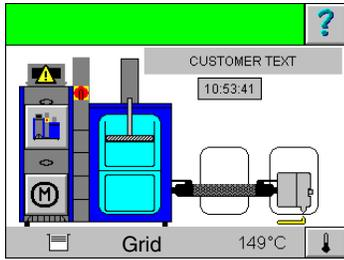

Fig. 4-7
4. Wait until the system is ready for operation (Fig. 4-7).